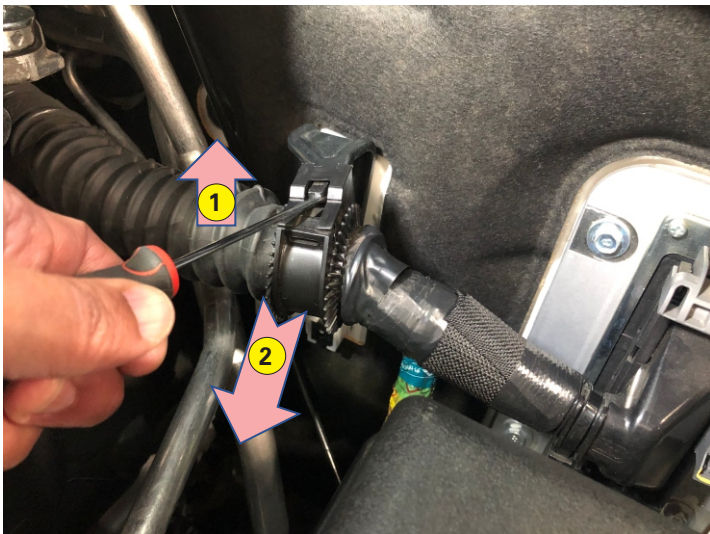

FIG. 1 WIRE HARNESS BRACKET IN ENGINE BAY
1. Locate the wiring harness on the passenger side firewall, next to rear fuse box. Remove from the harness bracket by lifting up the locking tab using a screwdriver, then pull out the wiring harness from the bracket. (see Fig. 1). Remove the wiring harness bracket by undoing the two nuts. Store bracket for safe keeping.